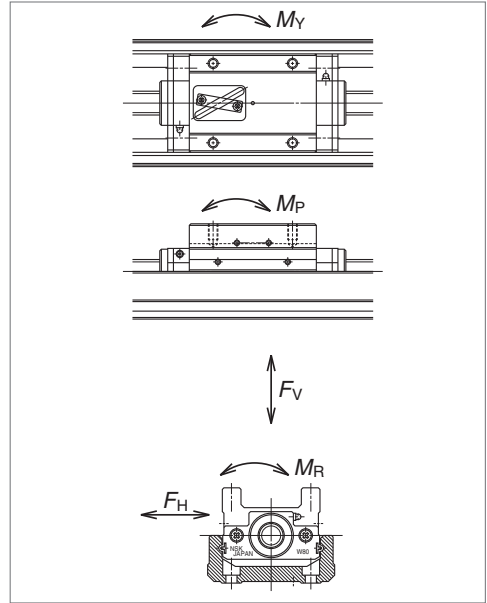

Fig. 4.6 Direction of load
Study the load to be applied to the linear guide of Monocarrier (Fig. 4.6). The equivalent load ( $F_e$ ) is determined by substituting the load for equation ① (Eq.②) : in case of the tightly coupled double slider type).